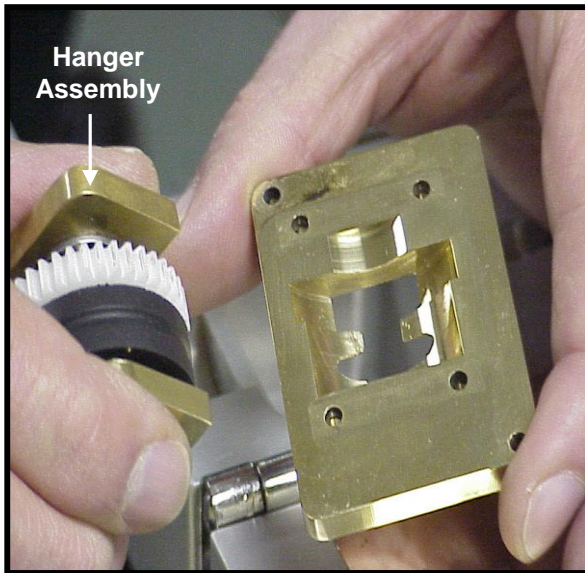

Figure 39
13.5.2.4 Separate Bearing Hanger Assembly from the Upper Brass Plate. See Fig. 39.